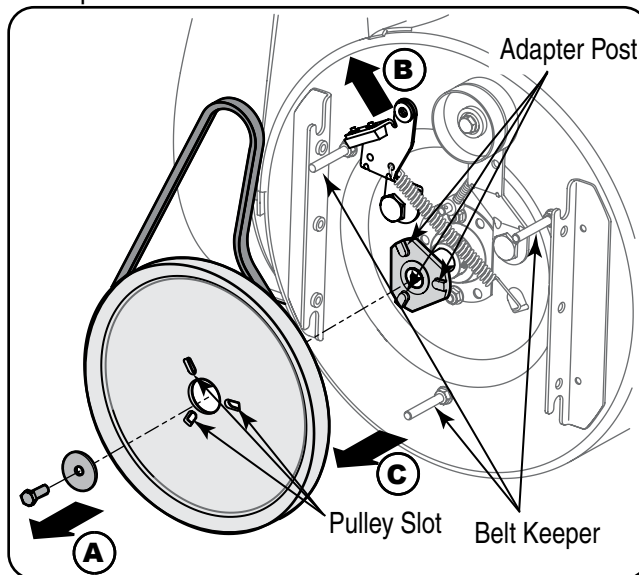

Figure 7-7
6. Block the impeller with a piece of wood to prevent it from spinning and use a 1/2" wrench to remove the hex screw and flat washer from the center of the auger input shaft and auger pulley adapter. Refer to Figure 7-7.
7. Lift the brake bracket assembly out of the pulley groove and slide the pulley assembly off the posts of the auger pulley adapter to remove the old belt. Refer to Figure 7-7.
8. Turn the pulley as necessary to align its three slots approximately with the posts of the pulley adapter, then move the brake bracket assembly away from the input shaft. While aligning the pulley slots and adapter posts, push the auger pulley fully onto the adapter. Refer to Figure 7-7.
NOTE: If the pulley adapter was removed with the pulley, align the splines of the pulley adapter and auger input shaft, and push the pulley and adapter onto the input shaft. Refer to Figure 7-7.